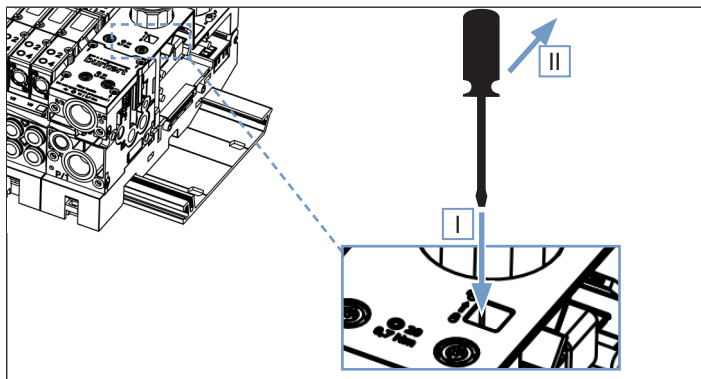

Fig. 25: Unlocking for inaccessible unlocking slider
- Only REV.2 devices: If the accessibility of the unlocking slider is impeded by an on/off valve, the unlocking slider can also be operated from the front side (see “Fig. 25”). Insert a thin slot screwdriver (shaft with a length of at least 85 mm and a diameter of max. 4 mm) into the opening in the pressure gauge module (I) until it stops and then tilt it slightly upwards (II).